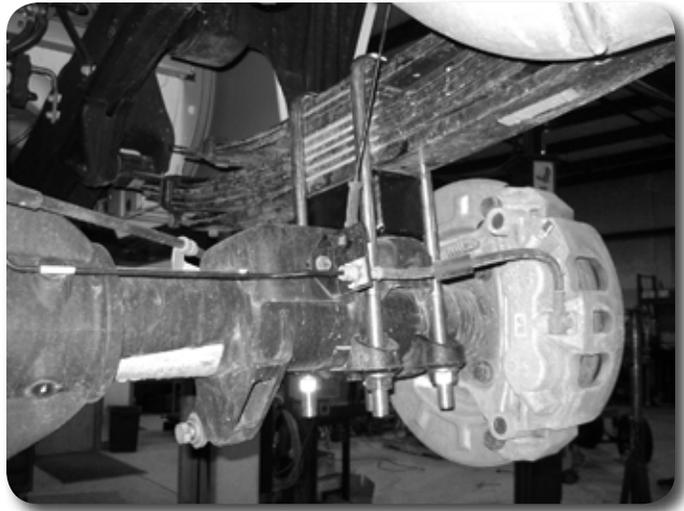

Figure 6
10. Install the new blocks between the axle and the leaf spring. Align the pins/holes and raise the axle to seat the assembly. Install the new provided u-bolts with the factory u-bolt plate. **Figure 6** Fasten with the provided locking flange nuts. Snug hardware. Final torque will be down with the vehicle on the ground.